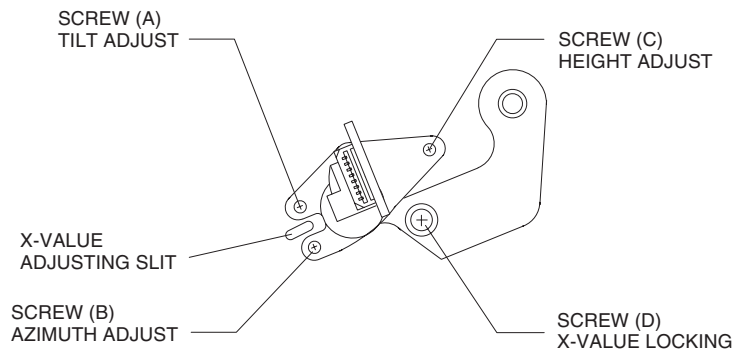
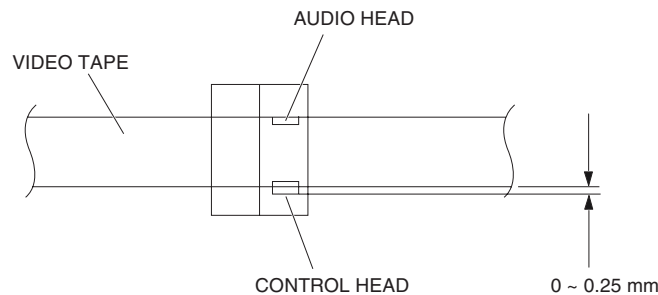

Fig. 5-3-3 Locations of ACE Head Adjustment Screws
Fig. 5-3-4 ACE Head Height Adjustment
- 3) Turn screw (C) clockwise or counterclockwise until the gap between the lower tape edge and the lower edge of control head is approx. 0.25 mm. (See Fig. 5-3-3 and Fig. 5-3-4)
- 3) If a curl or wrinkle of the tape occurs, slightly turn tilt adjustment screw (A) on the ACE head ass'y. (See Fig. 5-3-3)
- 3) Adjust screw (B) to maximize the audio level. (See Fig. 5-3-3)
- 5) Slightly loosen the X-value securing screw (do not excessively loosen). (See Fig. 5-3-3)